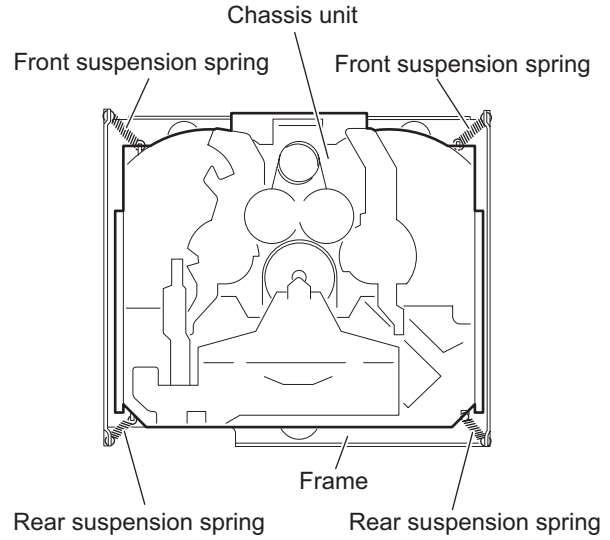

Fig.5
3.1.4 Removing the chassis unit (See Figs.5 and 6)
- From the top side of the CD mechanism assembly, remove the front suspension springs and rear suspension springs attaching the chassis unit to the frame. (See Fig.5.)
- Pay attention to misuse and loss of each spring. (See Fig.5.)